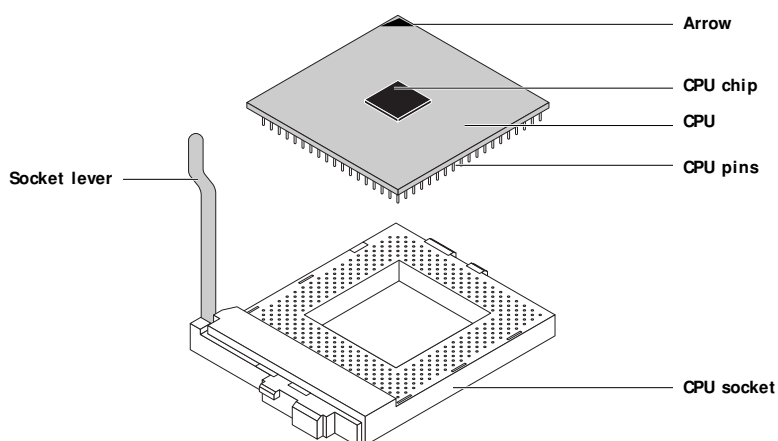

FIGURE 4-21 Replacing a CPU
5. Lift the CPU socket lever to release the CPU from the socket (see Figure 4-21 on page 4-43).
2. **Insert the CPU into the socket. Make sure you align the arrow indicating pin 1 on the CPU with pin 1 in the CPU socket ( see Figure 4-21).**